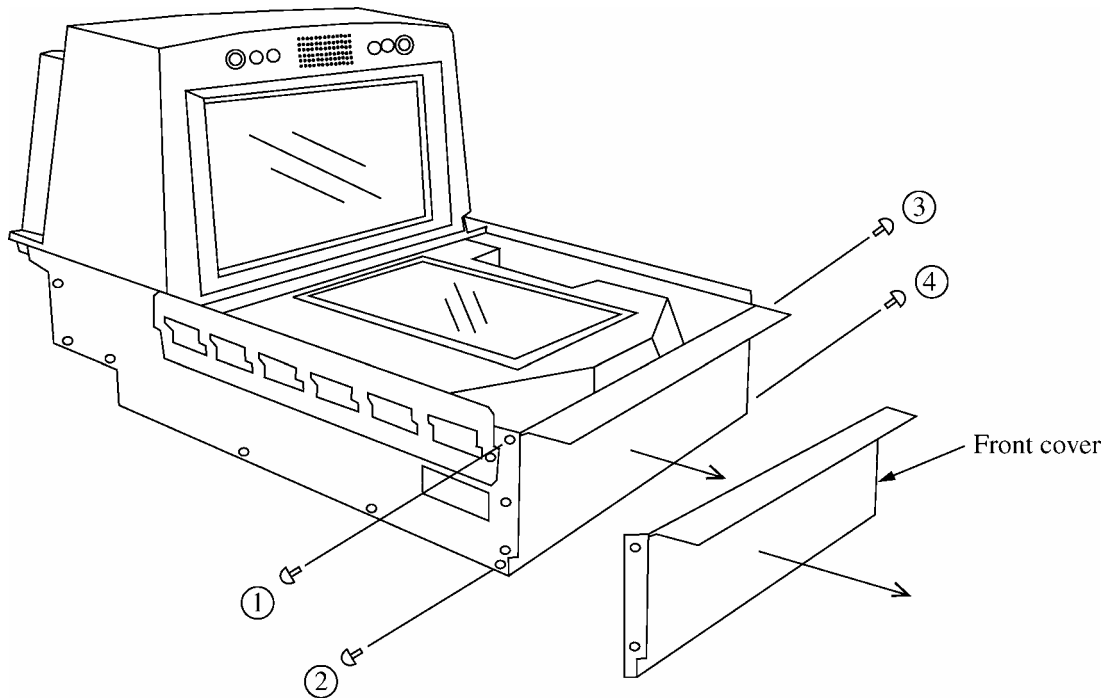

Figure 6.3-3
- (4) Remove screws ① to ④ then remove the front cover. (See Figure 6.3-3.)